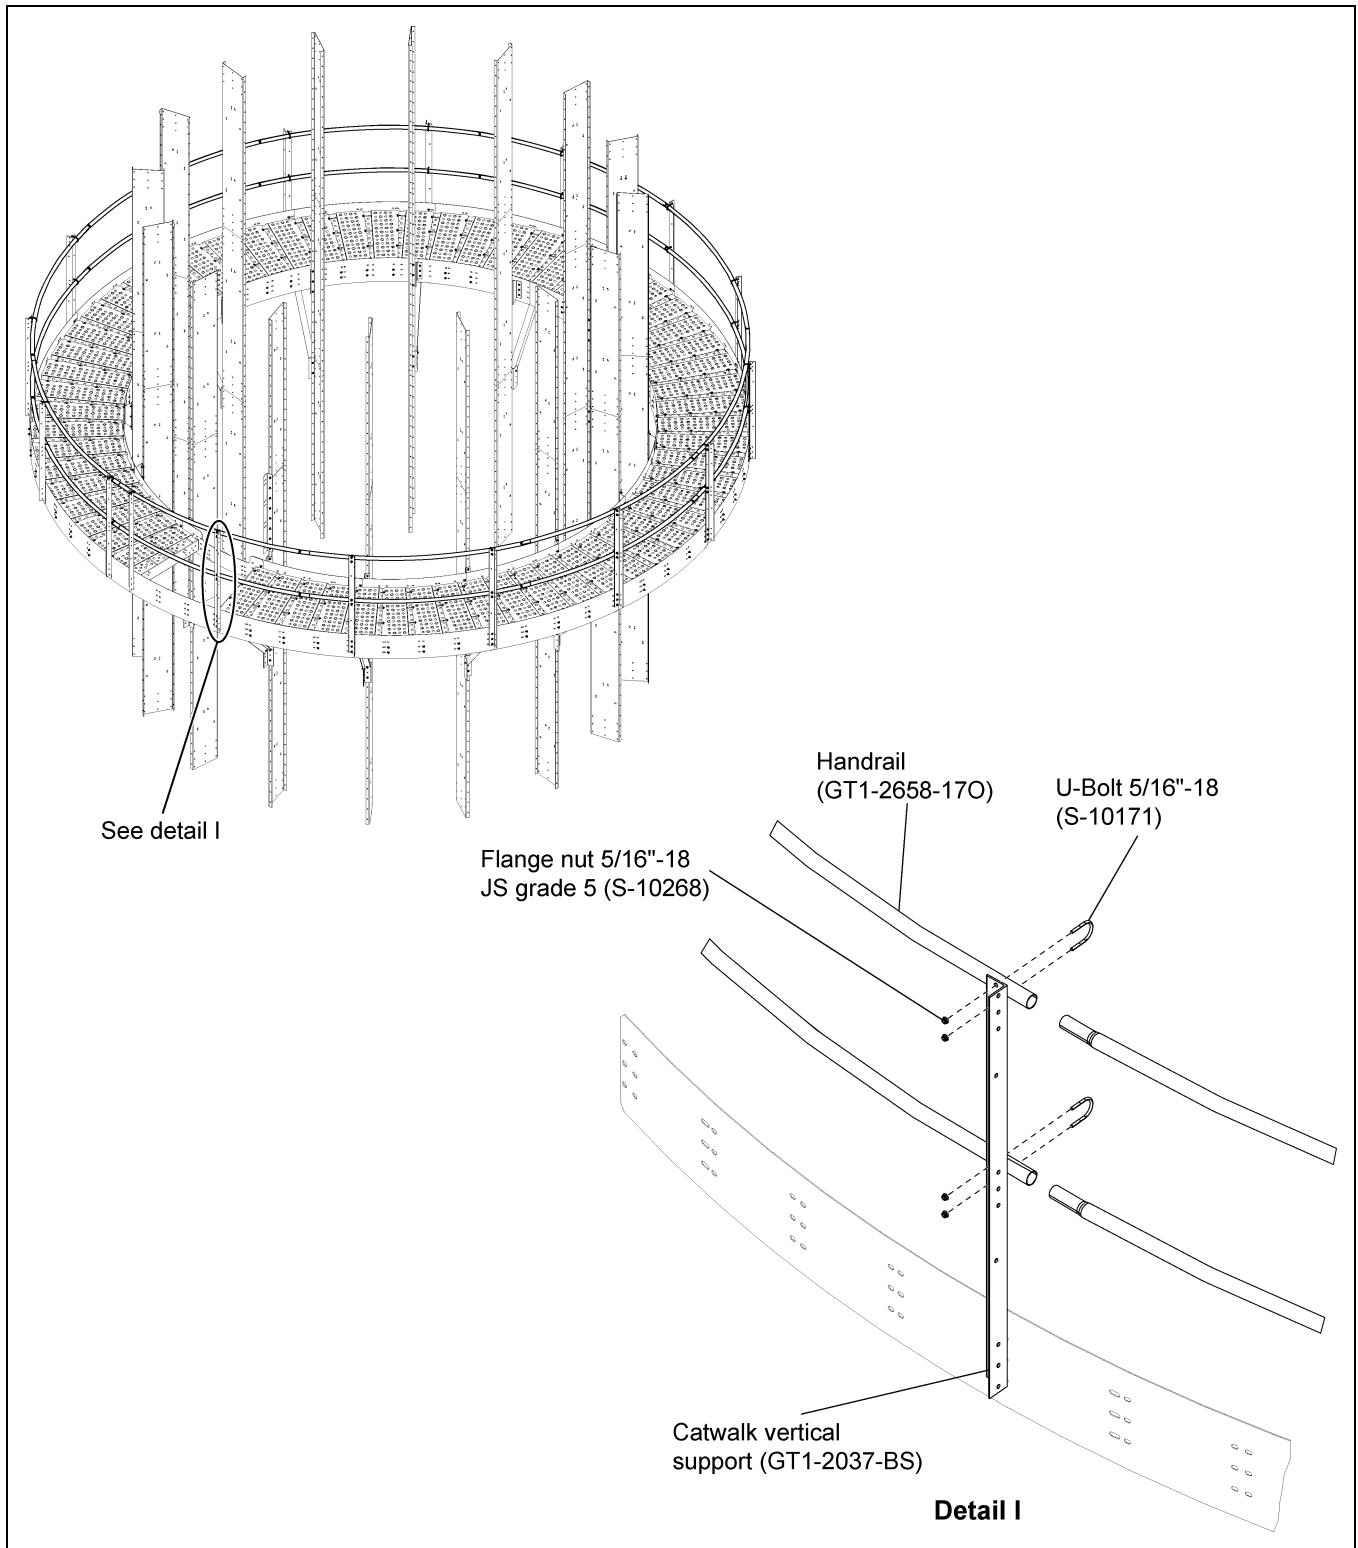

Figure 4U
1. Install the handrail (GT1-2658-170) to the catwalk vertical support (GT1-2037-BS) using 5/16"-18 ZN U-bolts (S-10171) and 5/16"-18 JS grade 5 nuts (S-10268) to tighten the handrail with vertical post. (See Figure 4U.) (See Page 29.)